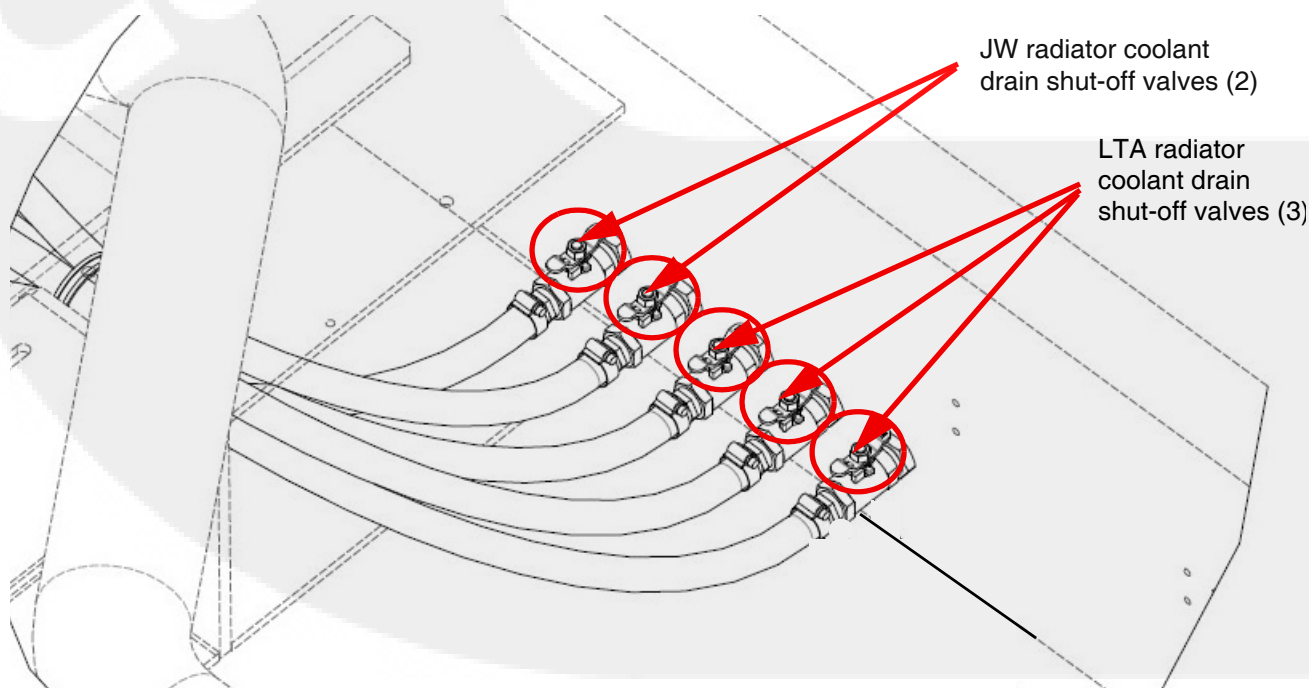

Figure 7-21 JW and LTA radiator coolant drain shut-off valves (GenSet right side)
3. Check to make sure that all coolant drain shut-off valves are closed. Turn the tee handle so that it is perpendicular to the drain line. Figure 7-21 shows the JW and LTA shut-off valves located *directly behind the JW and LTA drain holes* on the right side of the GenSet. If equipped, the intake air warmer has an identical shut-off valve behind the intake air warmer drain (also on the right side of the GenSet).